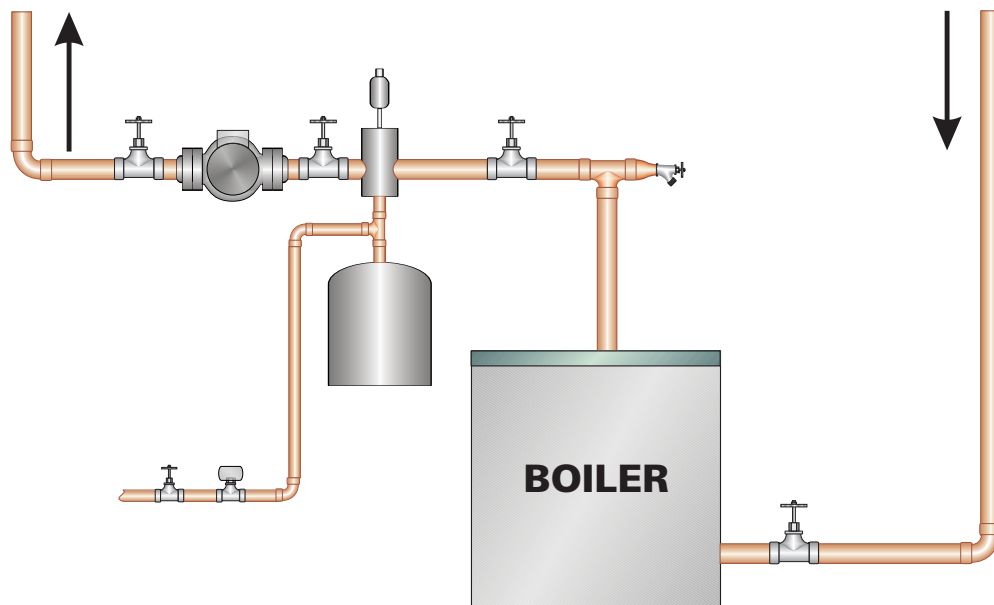

Figure 5.3: Importance of Pump Location
ALWAYS pump away from the expansion tank on commercial systems or when using high head pumps (Figure 5.3).
2. Pump and Expansion/Compression Tank Location (Figure 5.3).